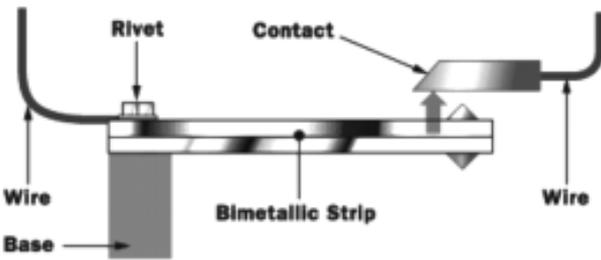

Fig.9.6 - General layout of Bimetal Thermostat
**Bimetal thermostat:** The principle behind a bimetallic strip thermometer relies on the fact that different metals expand at different rates as they warm up. By bonding two different metals together, we can make a simple electric controller that can withstand fairly high temperatures. The general layout is shown in Fig.9.6